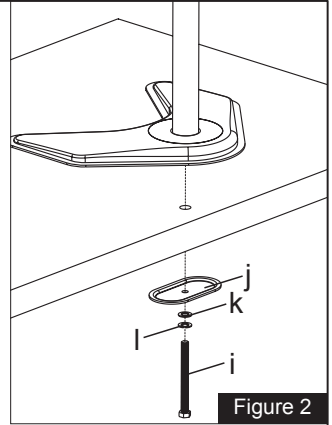

Figure 2
2. Optionally, you can drill a 10mm diameter hole in your desk and secure using the Support Plate (j), M10 Washer(k), Spring Washer(l) and M10 Bolt(i). Fasten the M10 Bolt with provided Wrench(p), see Figure 2.